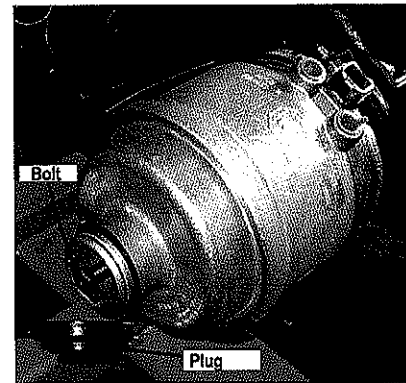

Figure 4
- Remove the plug from the center of drive and tag axle brake cans. (see *fig. 4*)